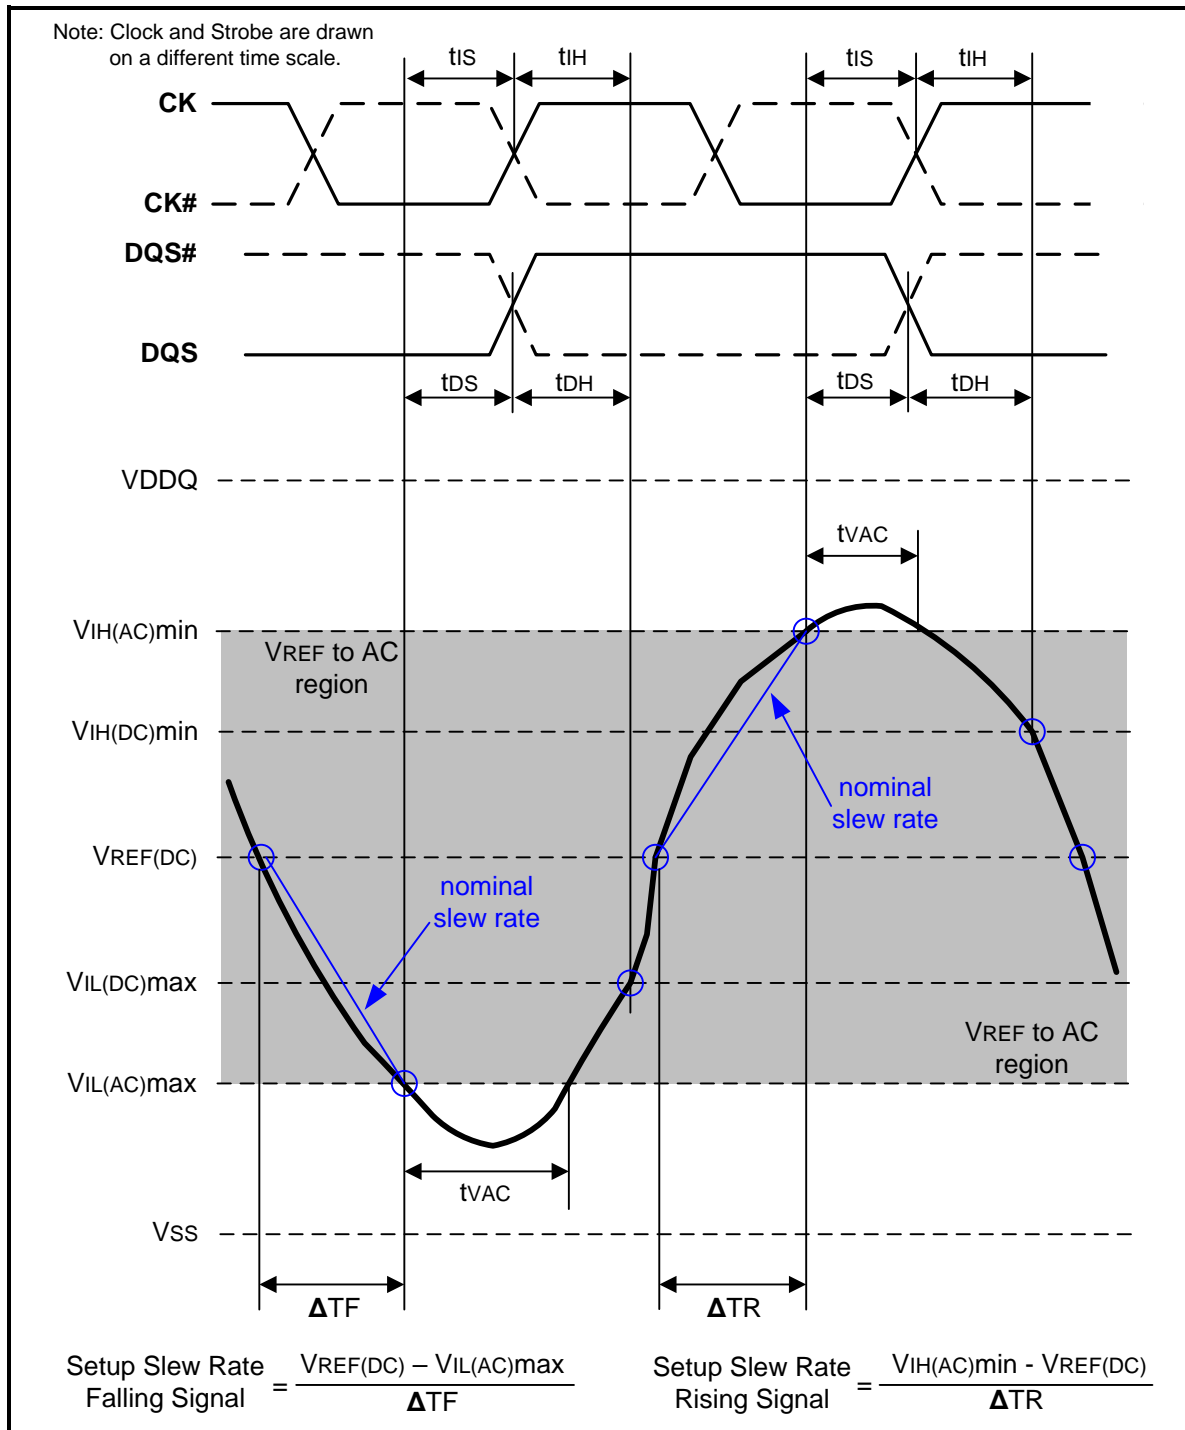
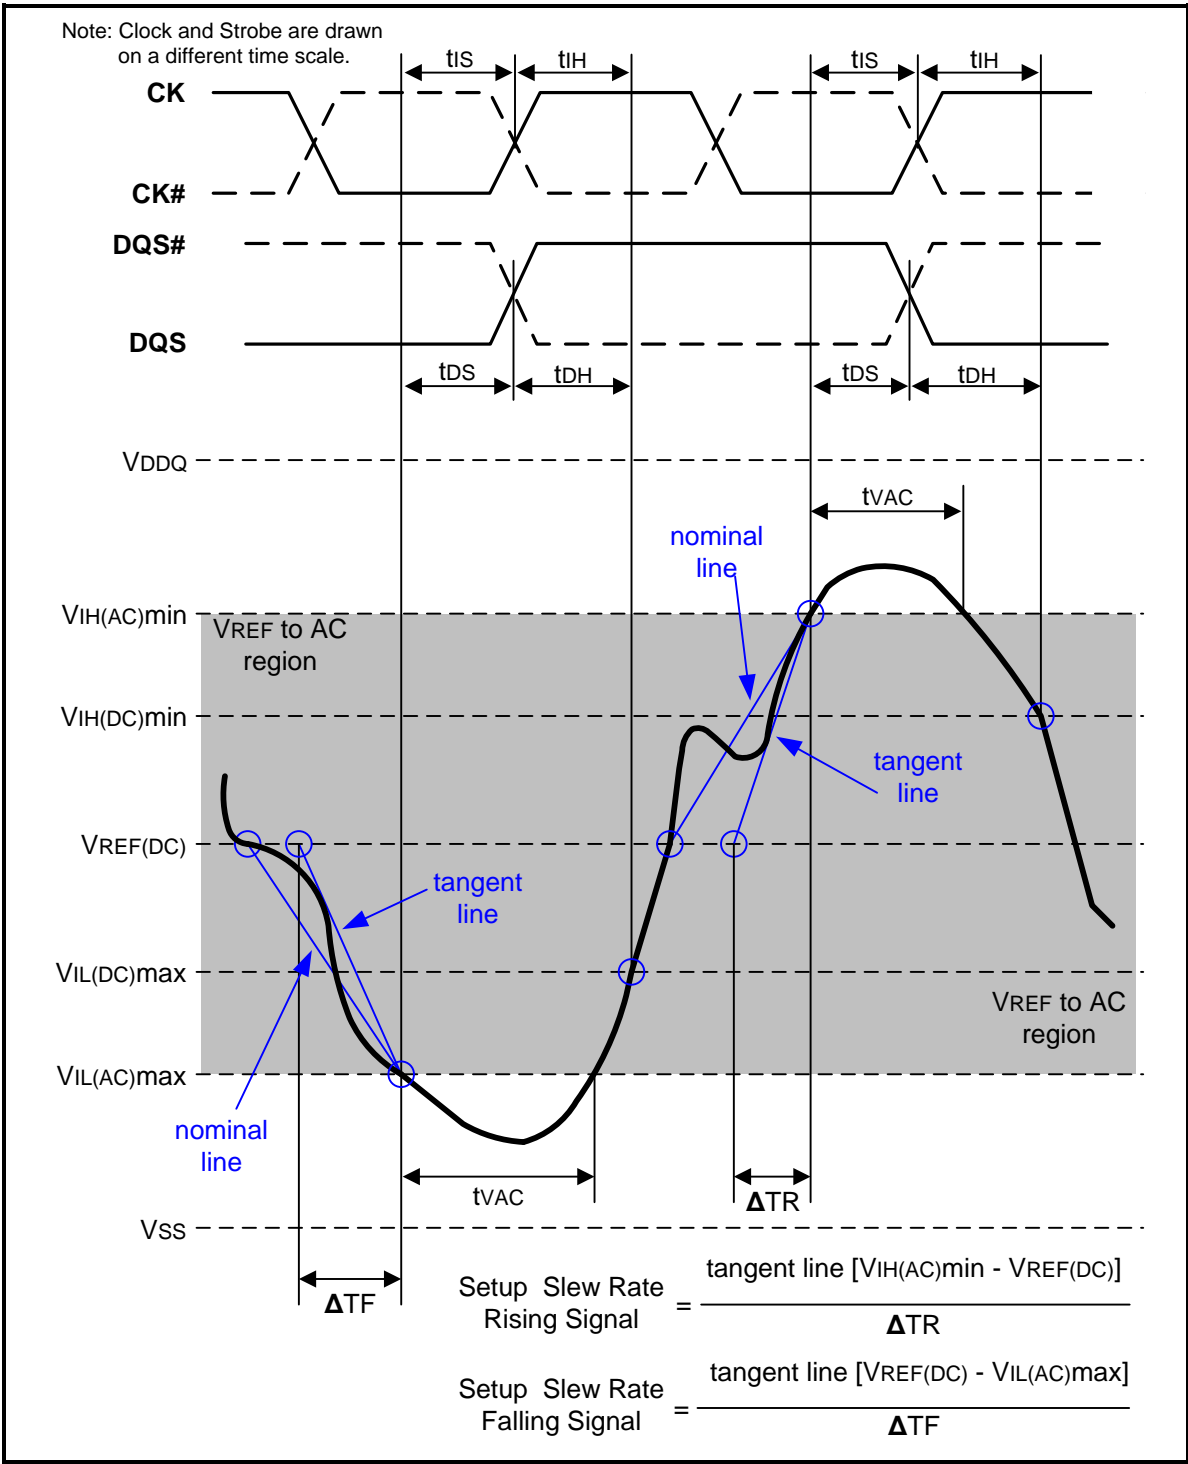

Figure 107 – Illustration of nominal slew rate and tvac for setup time tDS (for DQ with respect to strobe) and tIS (for ADD/CMD with respect to clock)
Figure 109 – Illustration of tangent line for setup time tDS (for DQ with respect to strobe) and tIS (for ADD/CMD with respect to clock)
Setup (t_{IS}) nominal slew rate for a rising signal is defined as the slew rate between the last crossing of $V_{REF(DC)}$ and the first crossing of $V_{IH(AC)min}$. Setup (t_{IS}) nominal slew rate for a falling signal is defined as the slew rate between the last crossing of $V_{REF(DC)}$ and the first crossing of $V_{IL(AC)max}$. If the actual signal is always earlier than the nominal slew rate line between shaded 'VREF(DC) to AC region', use nominal slew rate for derating value (see Figure 107). If the actual signal is later than the nominal slew rate line anywhere between shaded 'VREF(DC) to AC region', the slew rate of a tangent line to the actual signal from the AC level to $V_{REF(DC)}$ level is used for derating value (see Figure 109).
Setup (tDS) nominal slew rate for a rising signal is defined as the slew rate between the last crossing of VREF(DC) and the first crossing of VIH(AC)min. Setup (tDS) nominal slew rate for a falling signal is defined as the slew rate between the last crossing of VREF(DC) and the first crossing of VIL(AC)max (see Figure 107). If the actual signal is always earlier than the nominal slew rate line between shaded 'VREF(DC) to AC region', use nominal slew rate for derating value. If the actual signal is later than the nominal slew rate line anywhere between shaded 'VREF(DC) to AC region', the slew rate of a tangent line to the actual signal from the AC level to VREF(DC) level is used for derating value (see Figure 109).